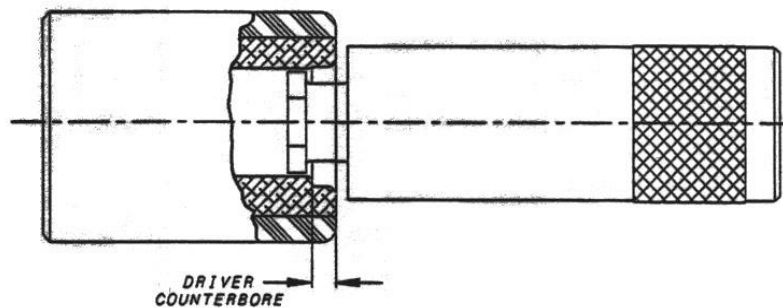

FIGURE 2
2. WHILE CONTINUING TO ATTEMPT TO RATATE, MOVE THE GAUGE OUT TOWARD THE DRIVER COUNTERBORE PER FIGURE 2.